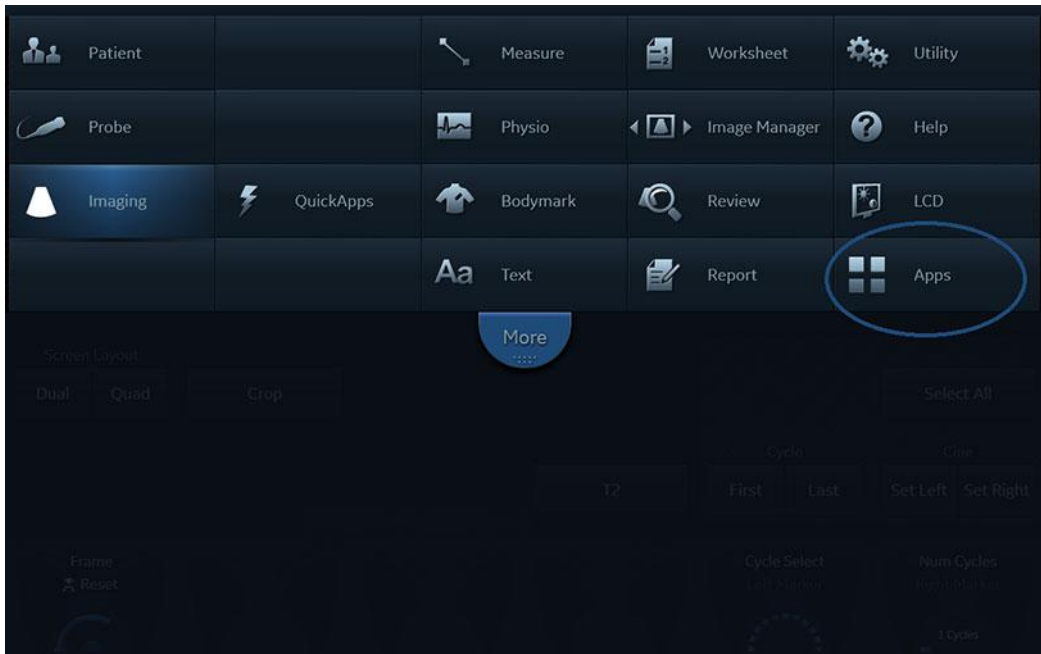

Figure 8-71. Accessing the Launchpad
1. Press **More -> Apps** on the Touch Panel (see Figure 8-71)